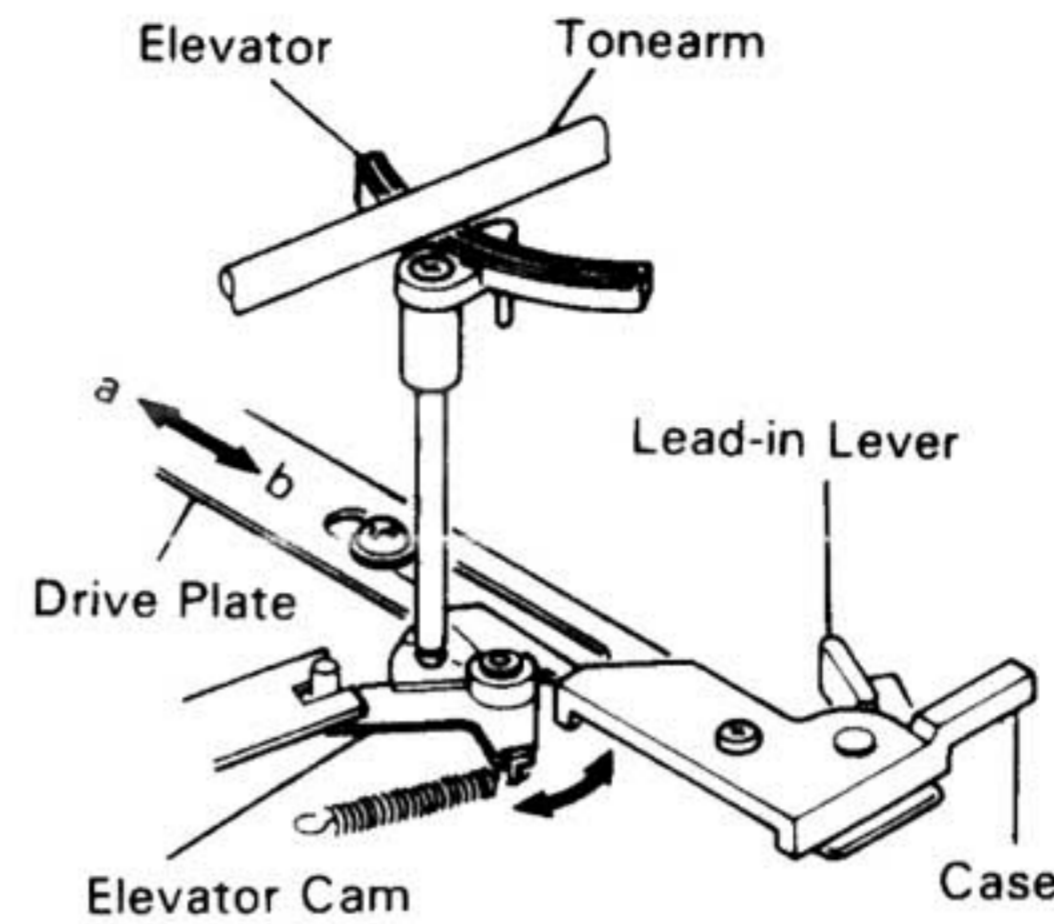
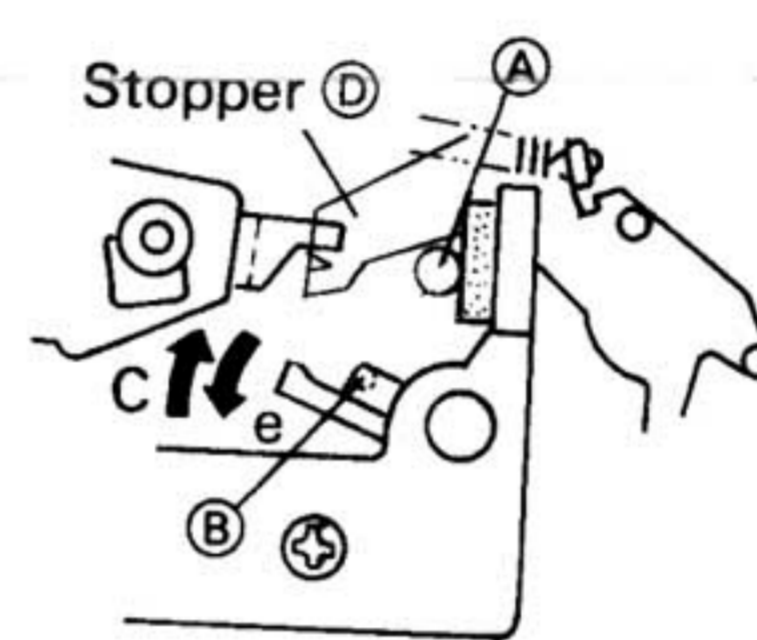

Fig. 3
Fig. 5
When the change cycle starts and the main gear rotates, the drive plate is moved to rotate the elevator cam as shown in Fig. 3.
In the stop or lead-out mode, as the drive plate linearly moves in the direction of "a" as shown in Fig. 3, arm lever stud (A) is shifted toward the rest in the direction of "d". However, as shown in Fig. 5, lead-in lever stud (B) (mold) temporarily rotates in the direction of "c", then comes into contact with stopper (D), returns in the direction of "e" and moves in the direction of "b" without clamping arm lever stud (A). As the result, the tonearm remains in the arm rest, the change cycle is completed and the unit returns to the initial state.